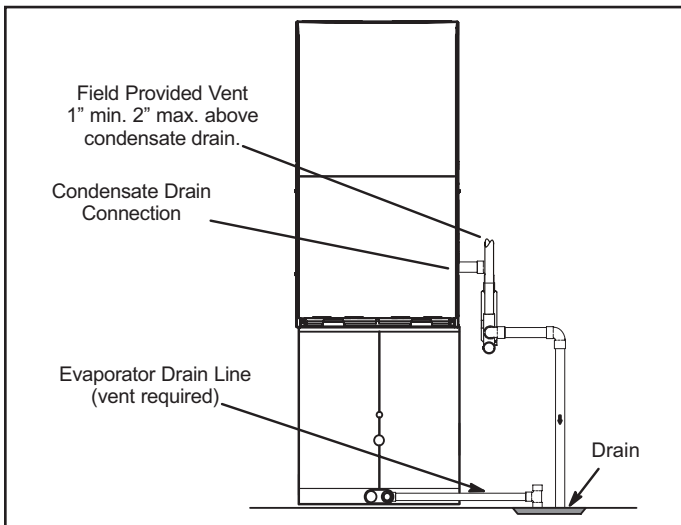
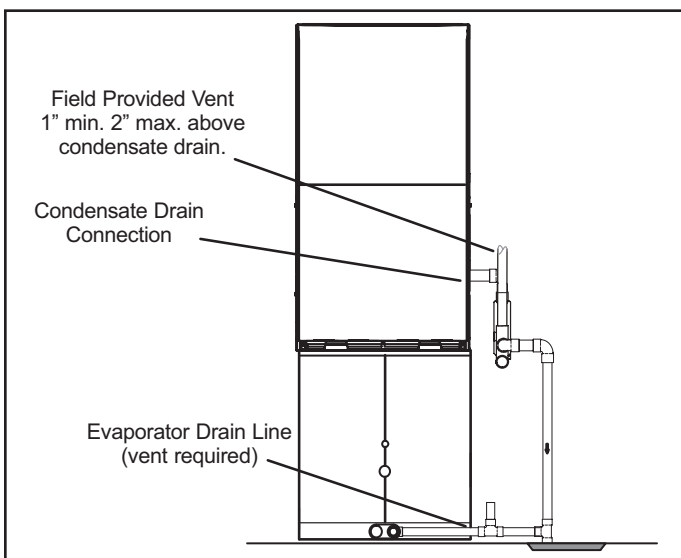

Figure 40. Unit with Cooling Coil Using Separate Drain
Figure 41. Evaporator Coil Using a Common Drain
5. Figure 40 shows the furnace and evaporator coil using a separate drain. If necessary the condensate line from the furnace and evaporator coil can drain together. See Figure 41.